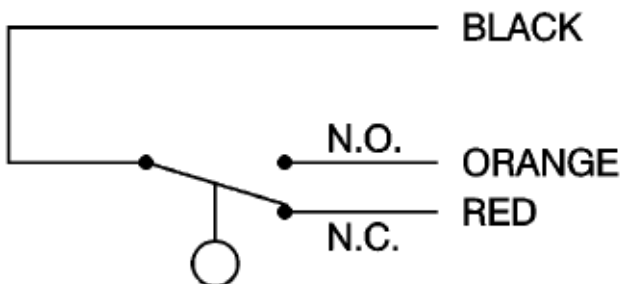

Figure 2
2. SPDT reed switch: Connect wiring to proper switch leads or terminals per wiring diagram. See figure 2.